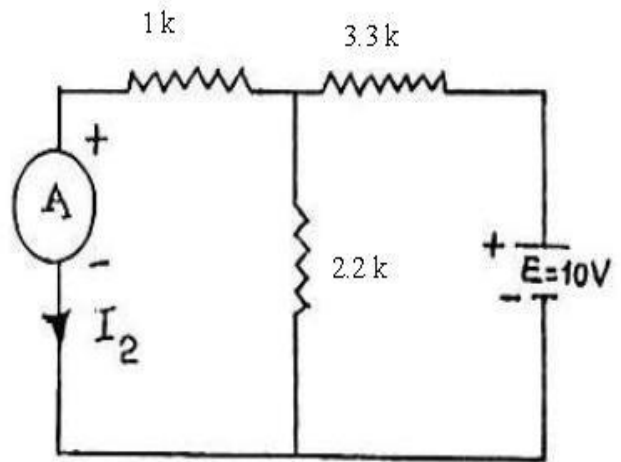

Figure.2
4. The circuit connections are changed as per the Figure 2, change the source to load end and replace the source with internal resistance.
4. Make the connections as per the circuit diagram shown in fig 2.